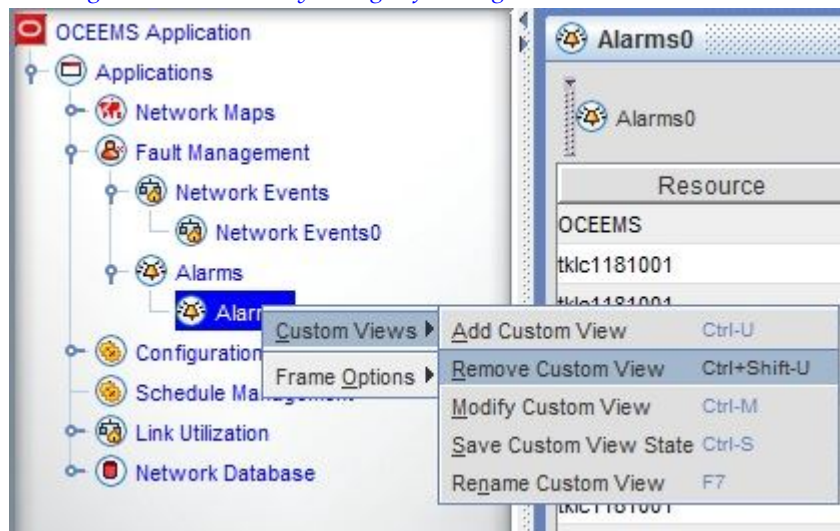

Figure 198: Deleting a Custom View By Using Left Navigation Pane
- Right-click on the custom view node under the Network Events/Alarms node in the left navigation pane, and choose **Custom Views > Remove Custom View** as shown in Figure 198: Deleting a Custom View By Using Left Navigation Pane.